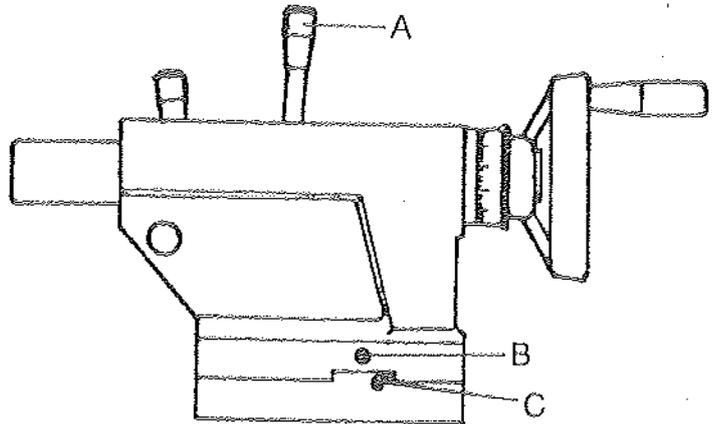

Fig. 22
1. Lock tailstock in position by raising locking handle (A, Fig. 22).
3. Alternately loosen and tighten front and rear hex socket cap screws (B, Fig. 22).
Take up play in the tailstock by tightening two gib screws (C, Fig. 22) on either side of the tailstock base. **Note:** Do not over tighten. Excessive tightening will lead to premature wear of the gibs and mating parts.